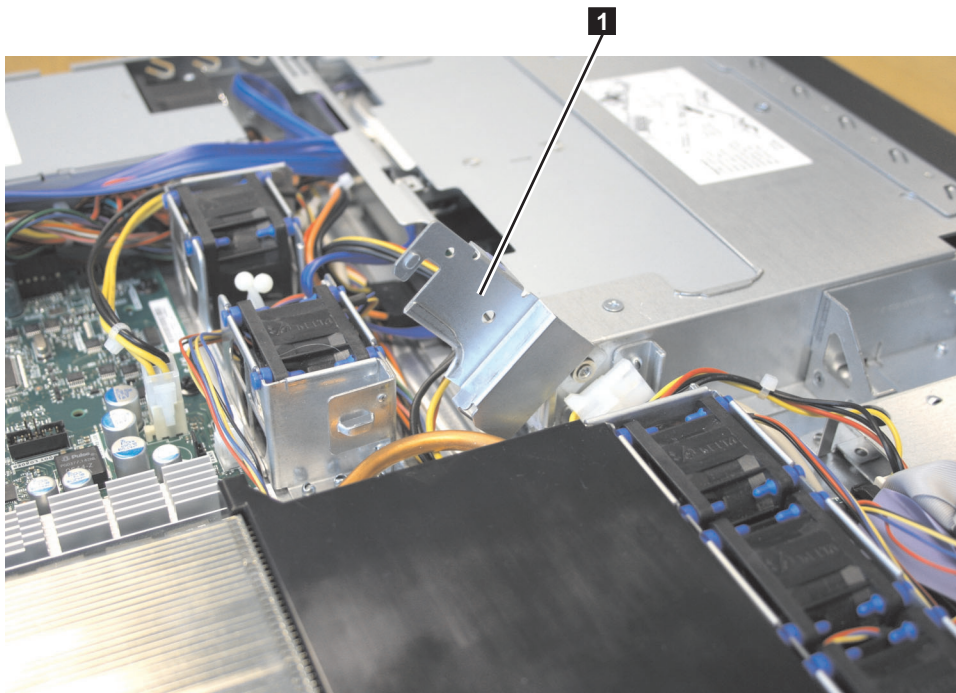

Figure 128. Air deflector for the SAN Volume Controller 2145-8A4 power supply
1. Make sure that the air deflector **1**, which is shown in Figure 128, is in the open position.
5. Rotate the air deflector (**1** in Figure 128 on page 124) into place, making sure not to pinch any cables beneath it, and press it down firmly.